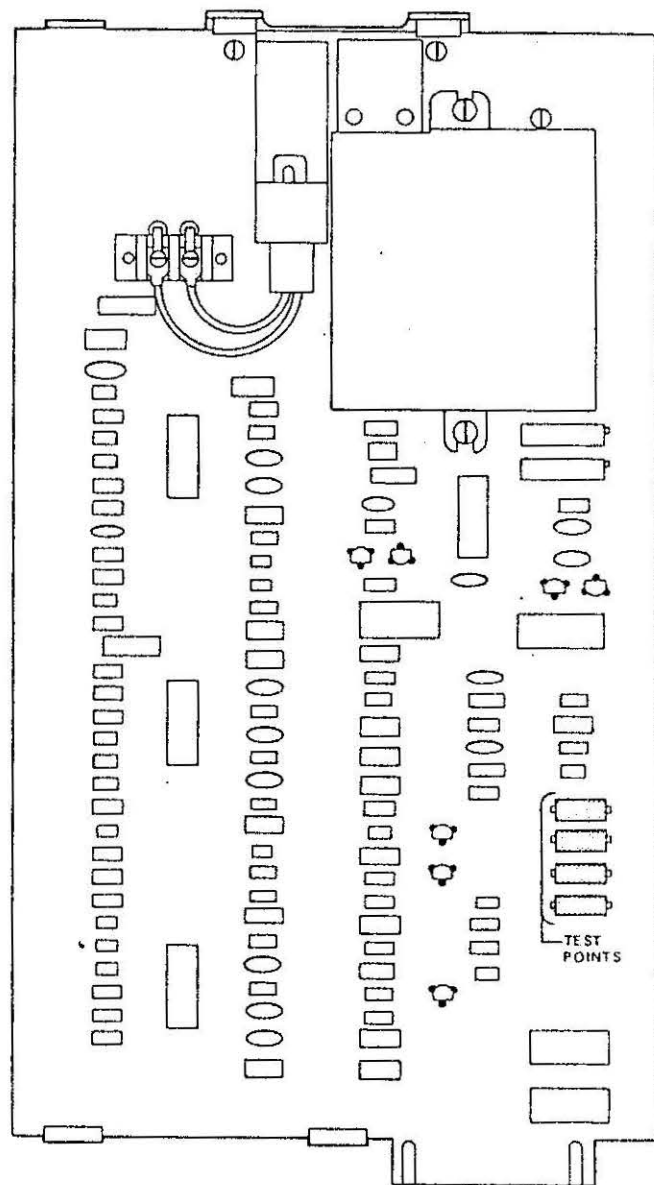

Fig. F-1 Pen decode board
3. Connect the positive lead of the meter to the red signal test point (fig. F-1, red terminal). Connect the negative lead to circuit ground.